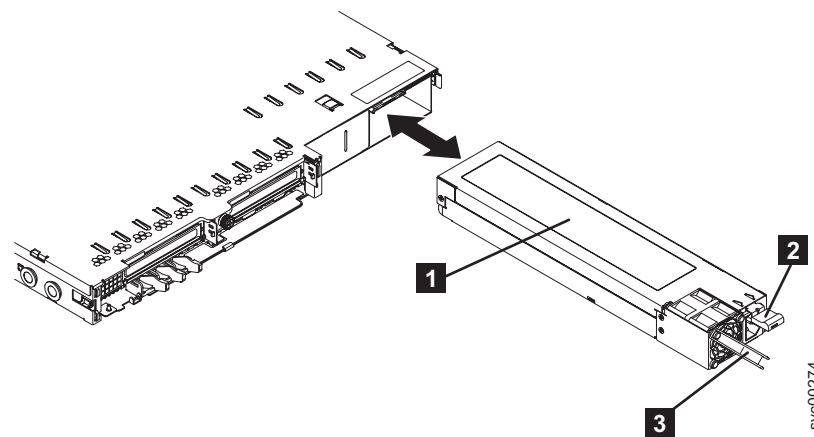

Figure 184. SAN Volume Controller 2145-8G4 power supply
1. Grasp the handle on the rear of the power supply (shown in Figure 184) and slide the power supply forward fully into the node until it clicks in place.